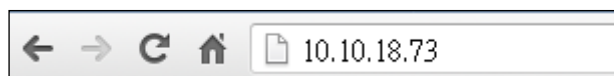

Figure 4-7: IEI iMAN Web Address
Step 2: On the remote management console, open a web browser. Enter the managed system IP address in the web browser (Figure 4-7).